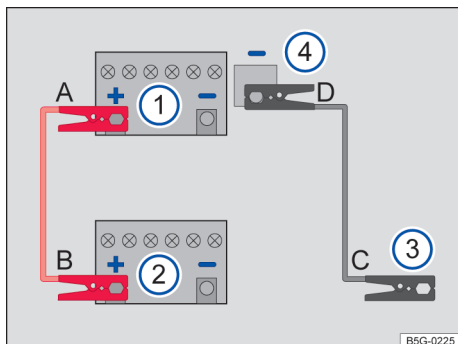

Fig. 161 Diagram for attaching the jumper cables: Dead battery ① and booster battery ②.
Key to **fig. 161**:
which follow the letters shown in the illustration → **fig. 161 A – B – C – D**.
3. Attach one end of the **red** jumper cable **A** to the **positive battery terminal** → **fig. 161 +** on the dead battery: ① → ⚠️.
4. Attach the other end of the **red** jumper cable **B** to the **positive battery terminal** → **fig. 161 +** on the good battery (booster battery): ②.
5. Attach one end of the **black** jumper cable **C** to the **negative jump-start terminal** of the vehicle **providing** assistance: → **fig. 161 ③** (→ page 234, *Jump-start terminal*), or if that is not available, to a bare metal part of the vehicle **providing** assistance. This part should be connected directly to the engine block.
6. Attach the other end of the **black** jumper cable **D** to the **negative jump-start terminal** of the vehicle **receiving** assistance → **fig. 161 ④** (→ page 234, *Jump-start terminal*), or if that is not available, to a bare metal part of the vehicle **receiving** assistance. This part should be connected directly to the engine block. Attach the clamp to a point that is as far away as possible from the dead battery ① → ⚠️.